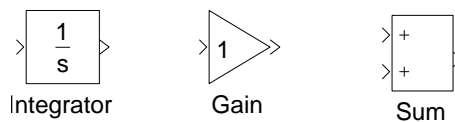

Figure 8: Simulink blocks.
- (a) Using only Integrator, Gain and Sum blocks shown in Fig. 8, sketch the Simulink implementation of the SISO system. The Sum block may have more than two input ports.